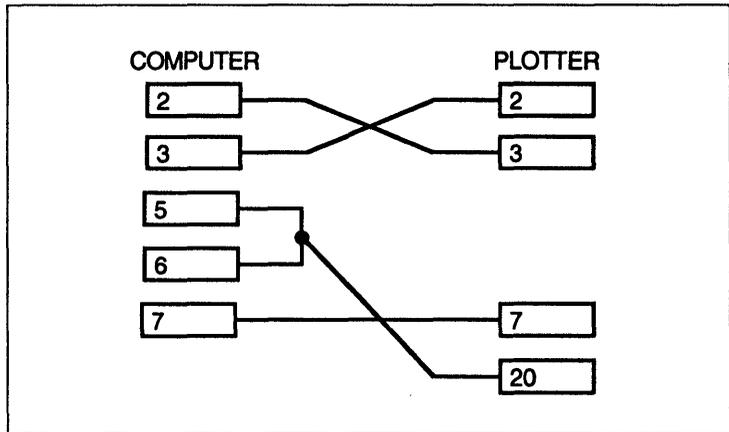
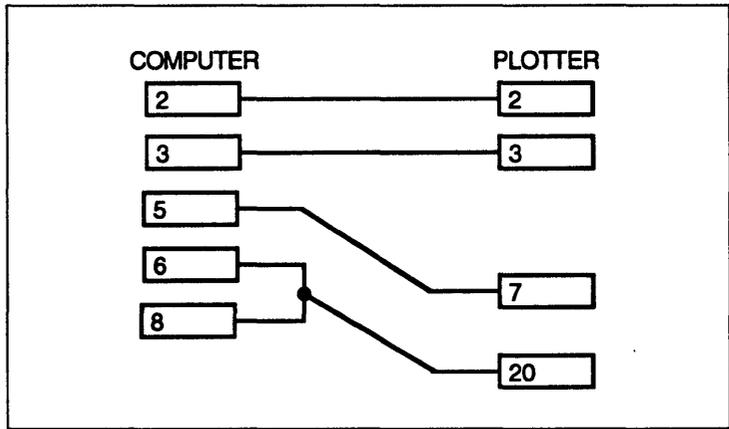
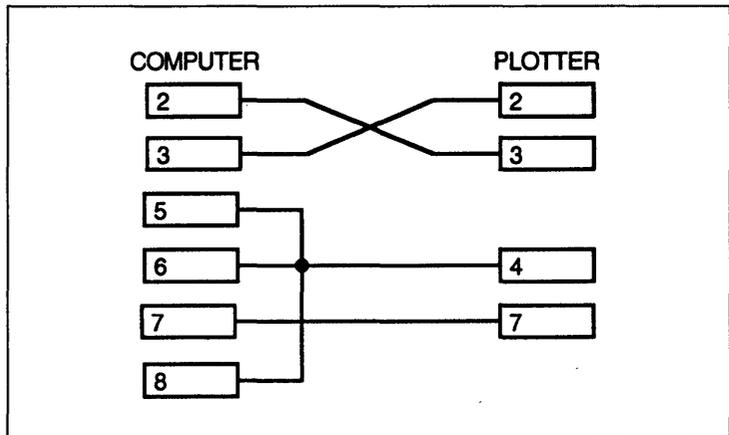

Figure E-1. 25-pin cable wiring diagram
Figure E-2. 9-pin cable wiring diagram
Figure E-3. 25-pin cable to IOline plotter
Figure E-1 is a wiring diagram showing the connections necessary to connect a 25-pin connector to a plotter. Figure E-2 is a wiring diagram showing the connections necessary to connect a 9-pin connector to a plotter. Figure E-3 is a wiring diagram showing the connections necessary for a 25-pin connector to an IOLine plotter.
1. Wire the cable as shown in figures E-1, E-2, and E-3. If your plotter works with another software package, and does not work with OrCAD, the first item to check is the wiring of your cable. Chances are the other CAD packages only require the TXD and RXD signal lines. OrCAD requires additional connections.